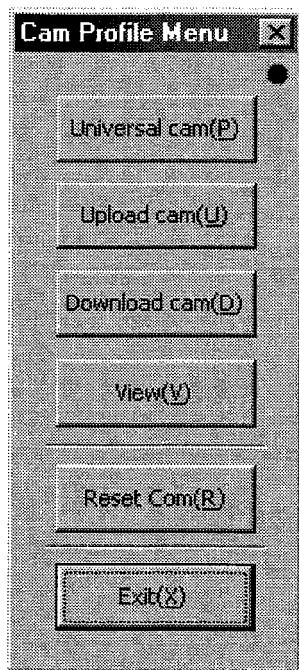

Figure 7.52 "Cam Profile Menu" dialog box
Click "*Parts (C)*" under "MainMenu" to display the "Cam Profile Menu" dialog box (see Figure 7.52).